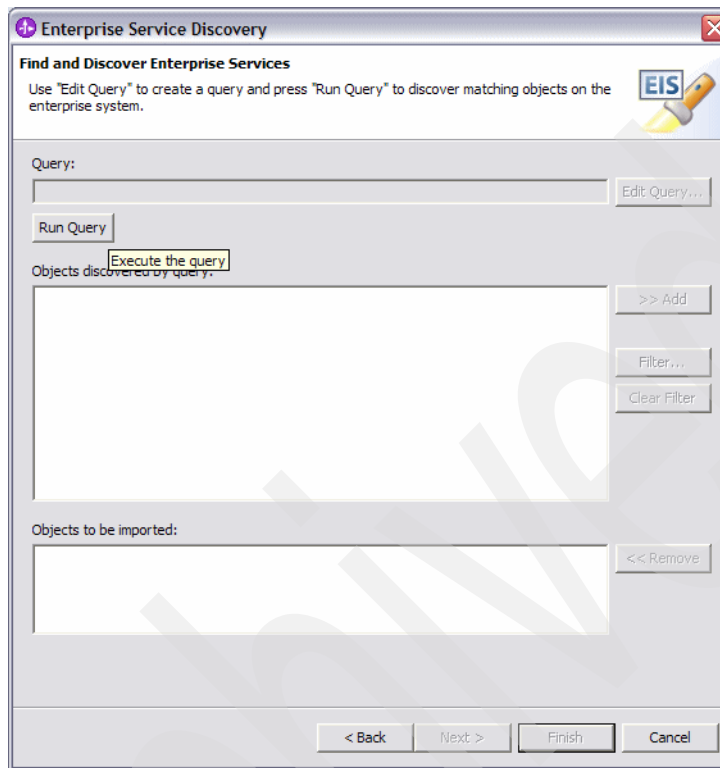

Figure 2-7 Run query
4. Click **Run Query** (Figure 2-7).